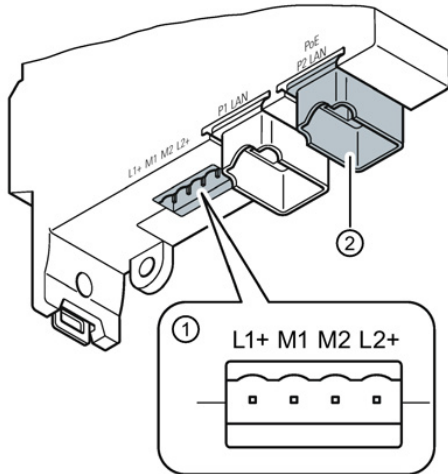

Fig. 60: Connections on the transceiver
- Direct infeed via the 4-pole socket: Connection pinout (see Fig. 60):